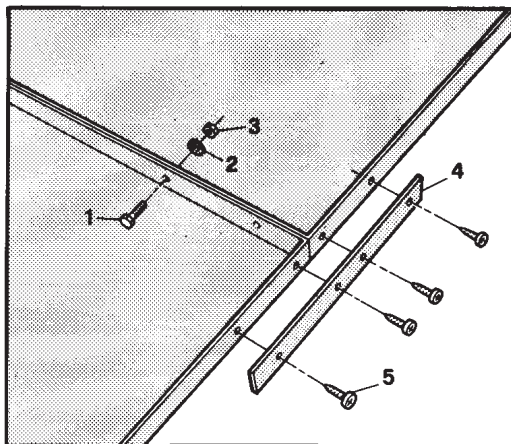

Fig. 26
5.03 (Fig. 26) Connect the panels together using screws 1, washers 2 and nuts 3, reinforcing their lower part with strips 4 fixed with screws 5.